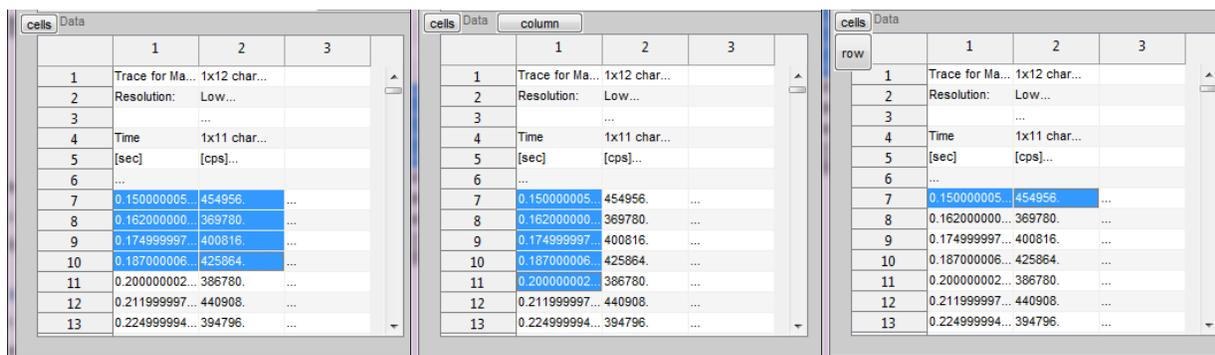

Figure 18 Different ways of indicating data ranges for the declare import rules tool.
Data ranges can be assigned manually in the “row 1”...“column 2” cells in the “Available rules” window, but a more convenient way is through the “Data” window. If a rule is selected in “Available rules” having an appropriate separation character for the data in the file selected in “Loaded files”, the data in the “Data” window may be seen to be ordered neatly into cells, columns and rows as shown in Figure 18. Selecting cells in this table triggers different behaviours.
- Selecting a rectangular block of cells of one or more column and row makes a button “cells” visible (Figure 18). Clicking this button transfers ONLY the coordinates of the upper left and bottom right of the block of selected cells to the selected rule. The rule will thus be applied to the data highlighted in the selected data block. If necessary, the data range can still be modified manually as outlined earlier and segmentation can be applied.